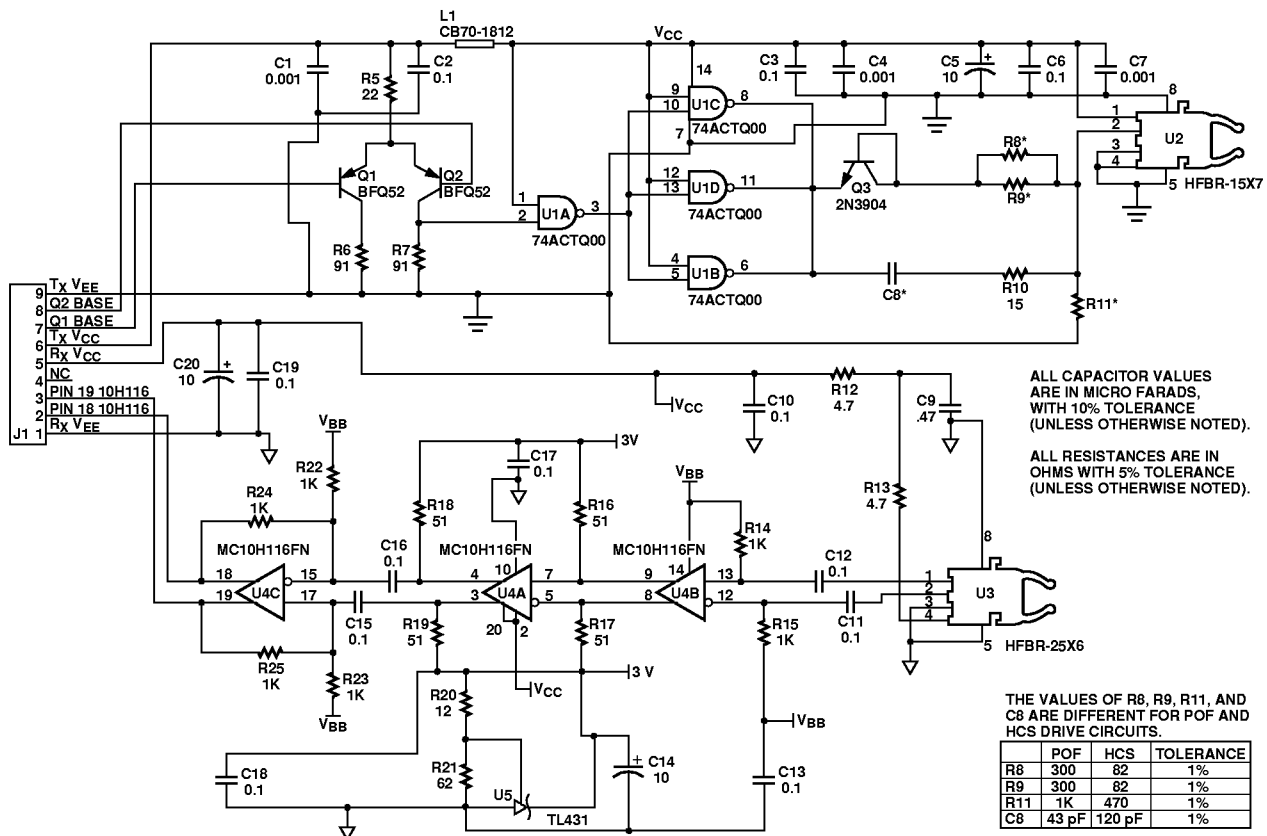

Figure 1. Transmitter and Receiver Application Circuit with +5 V ECL Inputs and Outputs.
recommended applications circuits shown in Figure 1. This circuit has been optimized for 125 MBd operation. The Applications Engineering Department in the Hewlett-Packard Optical
Recommended Operating Conditions for the Circuits in Figures 1 and 2.
1. If the output of U4C in Figure 1, page 4 is transmitted via coaxial cable, terminate with a 50 Ω resistor to V_{CC} - 2 V.
Performance of the HFBR-15X7 transmitter in the recommended application circuit (Figure 1) for POF; 1-125 MBd, 25°C.
Hard Clad Silica Fiber (200 μm HCS) Transmitter Application Circuit: Performance of the HFBR-15X7 transmitter in the recommended application circuit (Figure 1) for HCS; 1-125 MBd, 25°C.
Performance^[4] of the HFBR-25X6 receiver in the recommended application circuit (Figure 1); 1-125 MBd, 25°C unless otherwise stated.